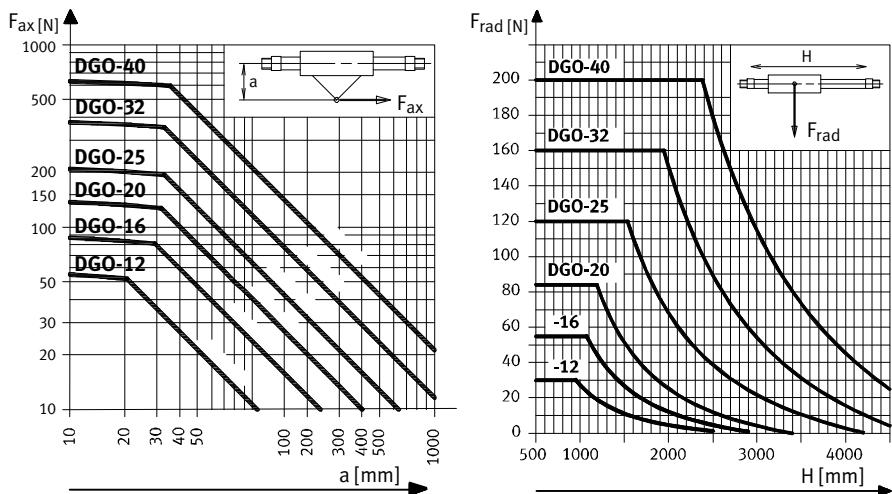

Fig. 8
- Place the work load so that the tilting torque of force F_{ax} parallel to the movement axis and lever arm “a” remains low (see Fig. 8).
- Observe the maximum values for radial force F_{rad} (see Fig. 8).